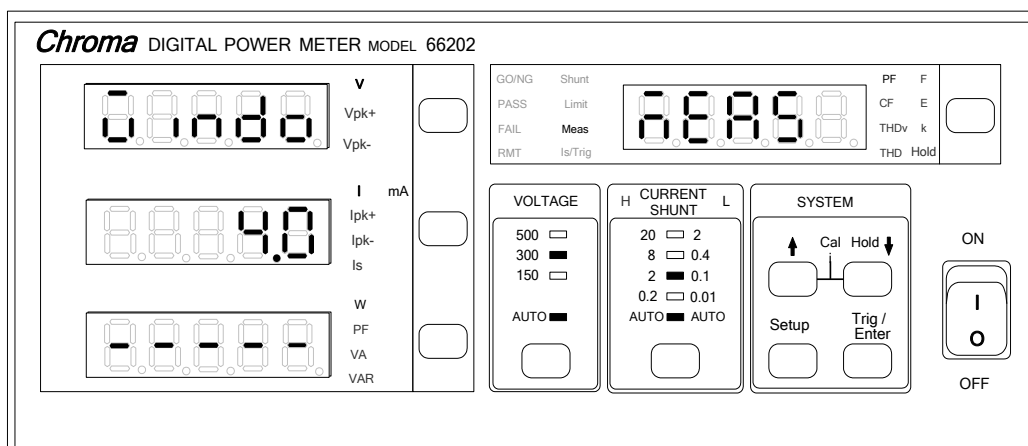

Figure 4-17 Setting Meas
1. Press **Setup** to select Meas and the indicator of Meas is on. Figure 4-17 shows the setting of Meas.
1. Press **Setup** to select Meas and the indicator of Meas is on as Figure 4-17 shows.